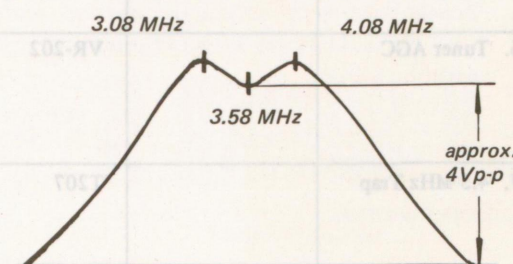

Fig. 4-17. Response curve of second bandpass amplifier
7. Adjust the core of BPT-2 to obtain the response curve shown in Fig. 4-17.